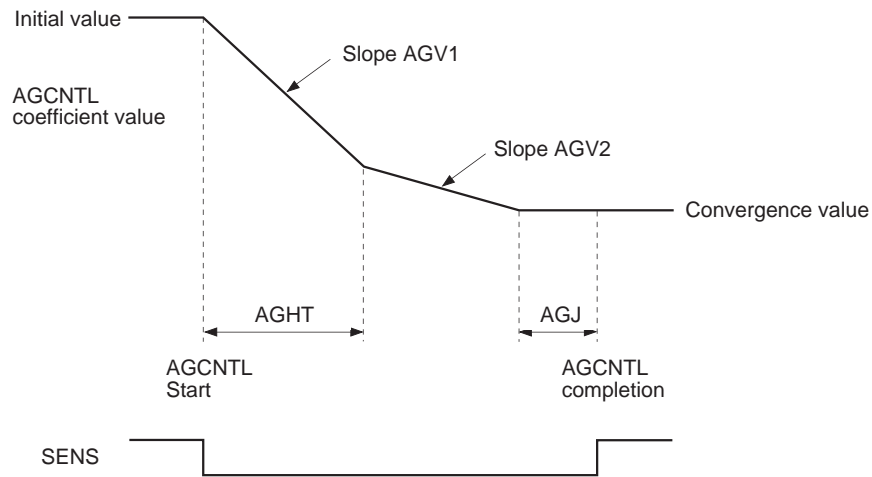

Fig. 5-5.
An example of AGCNTL coefficient transitions during AGCNTL in various settings are shown in Fig. 5-5.
**Note)** Fig. 5-5 shows the example where the AGCNTL coefficient value converges to the smaller value from the initial value.